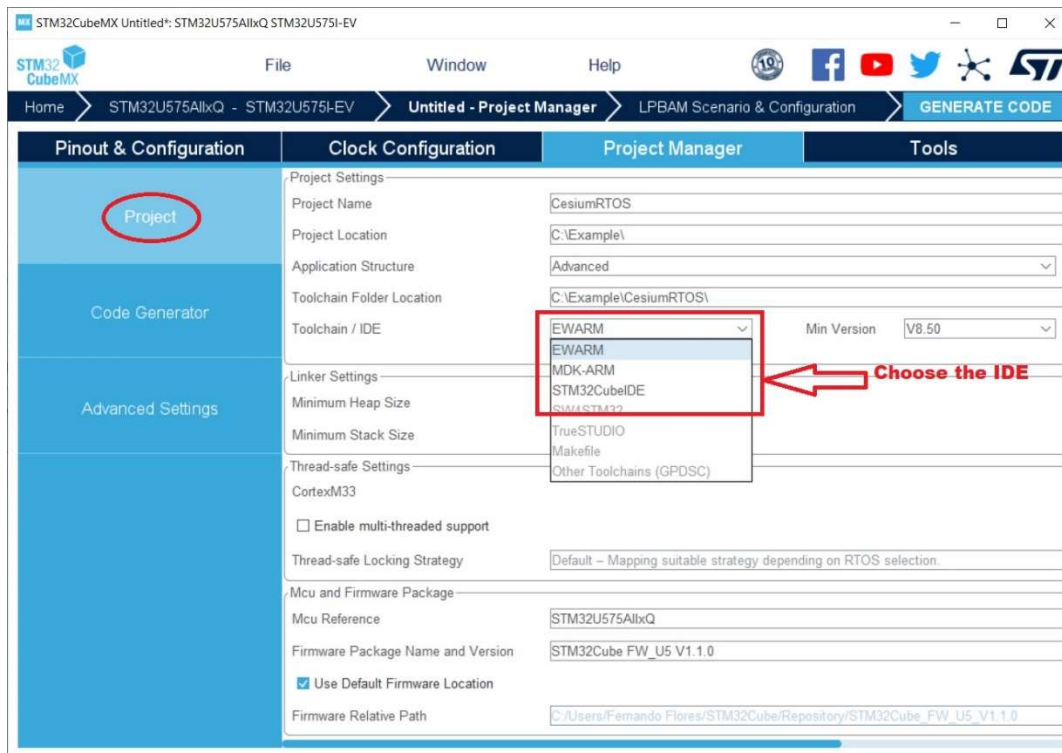

Figure 3.7 – Project Manager’s Project Information
- Select the “**Project Manager**” tab in the STM32CubeMX workspace, and provide a project name, location, and toolchain to be used as shown in Figure 3.7.